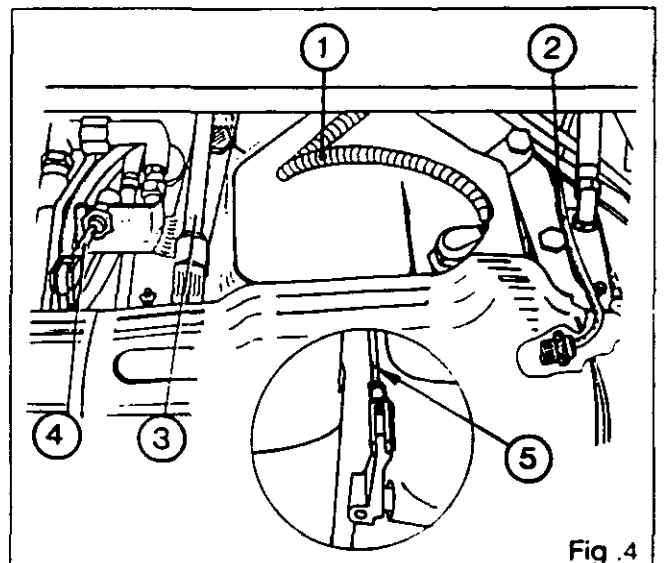

Fig. 4
7. Disconnect (Fig. 4):
- . the vehicle sensor wire assembly (1) (Autotronic, Datatronic)
- . the position sensor wire assembly (2)
- . the differential lock pipe (3)
- . the cable (4) (4-speed PTO, if fitted)
- . the cable (5) (shiftable PTO, if fitted).